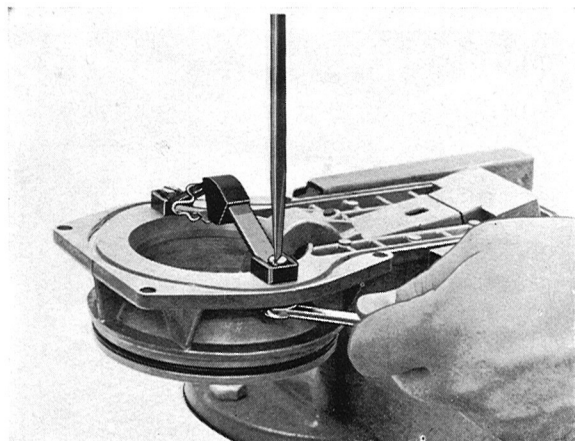

Fig. 2-182. Removal of air flow sensor plate stop
4. Remove the air flow sensor plate stop by removing the two retaining screws, see Fig. 2-182.